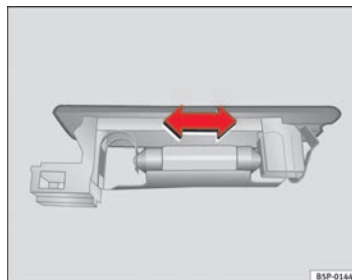

Fig. 152 Luggage compartment light
- Press the bulb sideways and remove it from its housing ⇒ fig. 152. ■